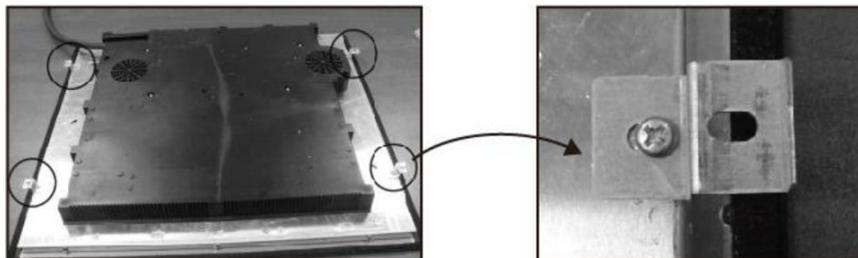

Fig. 5
5. After installation, fix the heating plate to the work surface using 4 bolts at the bottom side of the heating plate (see Fig. 5). Adjust the position of the bracket to actual thickness of the worktop table.